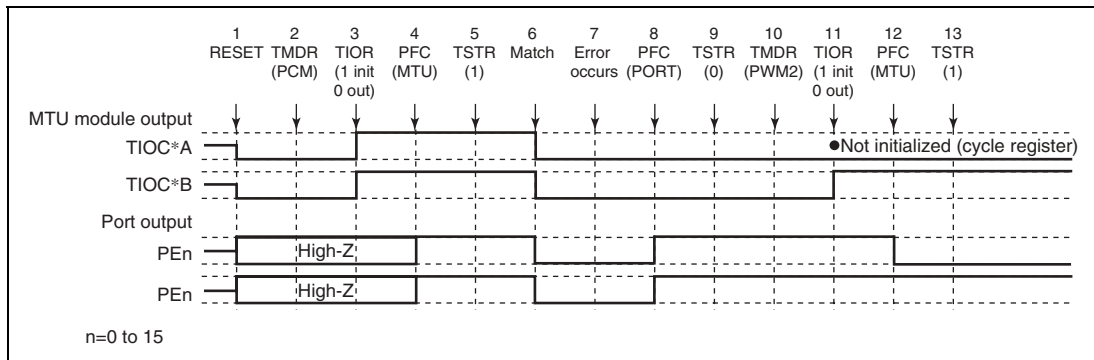

**Figure 11.103 Error Occurrence in Phase Counting Mode, Recovery in PWM Mode 2**
**Operation when Error Occurs during Phase Counting Mode Operation, and Operation is Restarted in PWM Mode 2:** Figure 11.103 shows an explanatory diagram of the case where an error occurs in phase counting mode and operation is restarted in PWM mode 2 after re-setting.